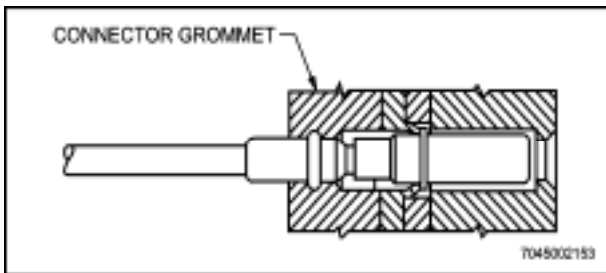

Figure 12-47 Final Connection Assembly
- Push the sealing boot forward into the grommet of the connector until the O-ring riser of the boot has effected its snap-in seal. (See Figure 12-47). The installation of the shielded contact is complete.